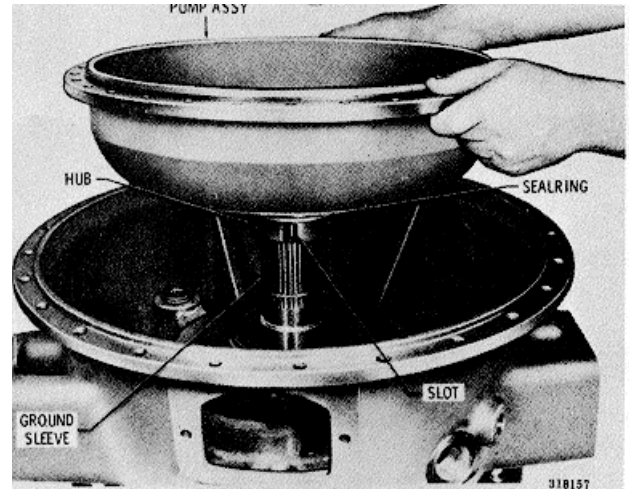

Fig. 7-46 Installing torque converter pump assembly
(1) Install the torque converter pump assembly, as rebuilt in paragraph 6-9, onto the ground sleeve (fig. 7-46). Check the sealring on the hub.
(2) Align the slot in the pump hub with tangs in the oil pump drive gear as the pump is being installed (fig. 7-46).